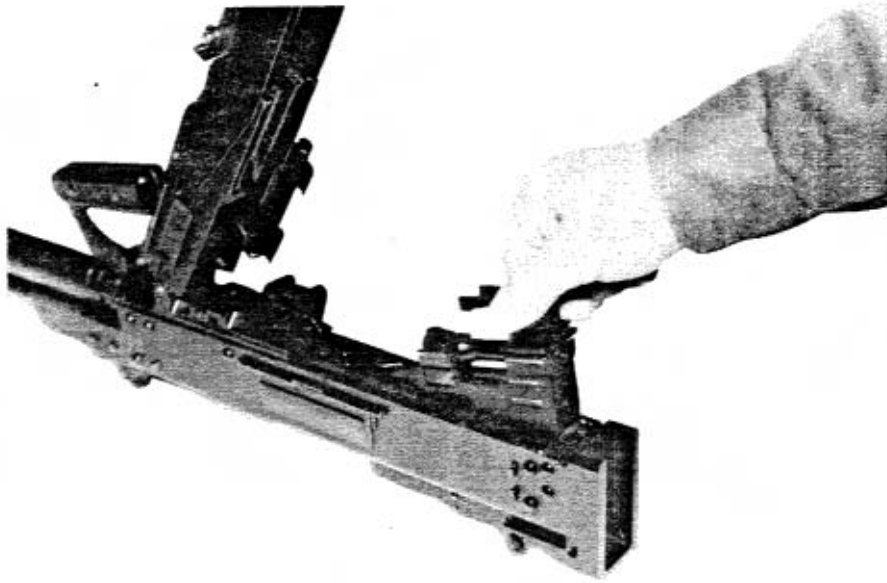

FIG. A-6. CARRIER BLOCK RAISED
- e. To remove the carrier block and bolt, hold the weapon with the left hand and pull the carrier block to the rear as far as it will go. Raise the carrier block, and remove it and the bolt from the receiver (Figs. A-6 and A-7).